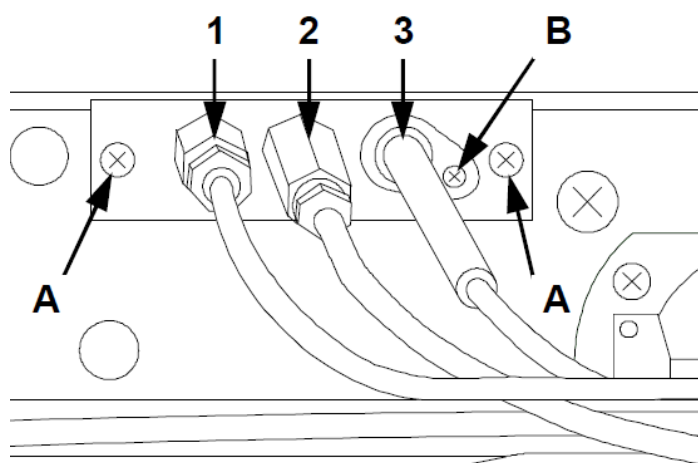

FIG.18 (REMPLACEMENT DU THERMOCOUPLE, DE LA VEILLEUSE ET DE LA BOUGIE)
- DÉVISSER LA THERMOCOUPLE AVEC UNE CLEF FIXE SPÉCIALE (FIG.18-RÉF.1);
- DÉVISSER LES 2 VIS DU SUPPORT (FIG.18-RÉF.A);RÉMONTER LA NOUVELLE VEILLEU-SE (FIG.18-RÉF.2) SELON LES PHASES SUSMENTIONNÉES;
- ENLEVER LA BOUGIE EN DEVISSANT LA VIS (FIG.18-RÉF.B);
- RÉMONTER LA NOUVELLE BOUGIE (FIG.18-RÉF.3) SELON LES PHASES SUSMENTIONNÉES